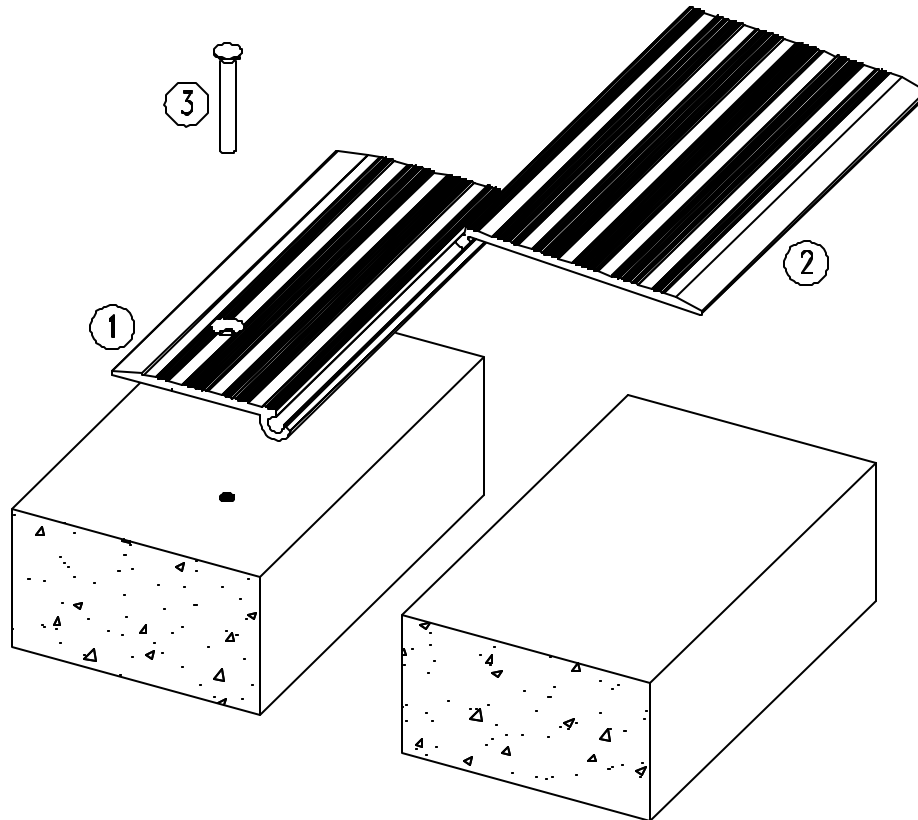

Figure 1
STEP 1. Select the base member. Place the base member into its installed position. Ensure that the base member is straight, level, and properly aligned. Using the base member as a template, mark the location for the anchor holes on the concrete. Remove the base member from its position and drill the anchor holes at the marked locations (Figure 1).